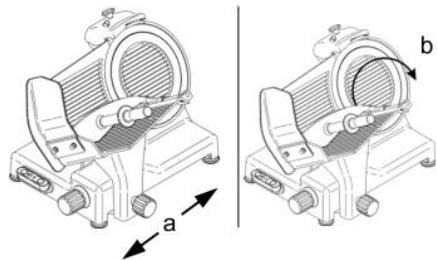

Fig. 19
- Check the sliding ability of the tray and pay attention that during checking there are no obstacles in the way on the working table (a, fig. 19),